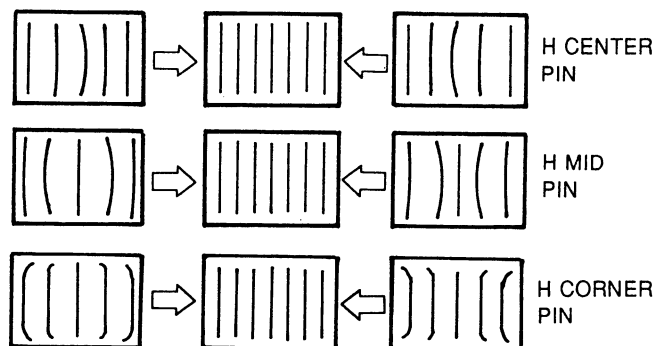

**Fig. 1-10.**
9. Adjust the H SIZE, H LIN BAL, and H LIN data as shown in Fig. 1-10.